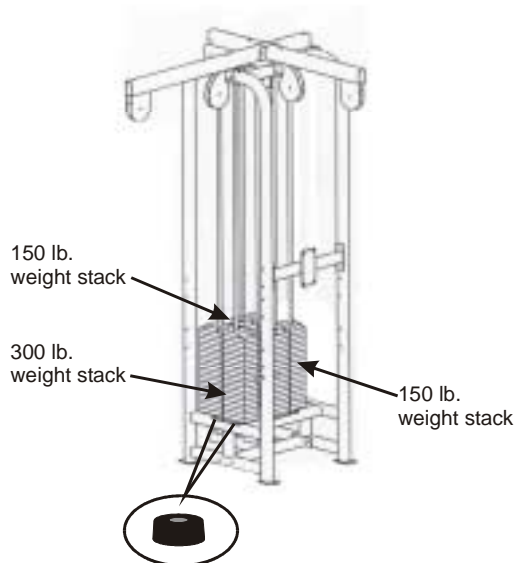
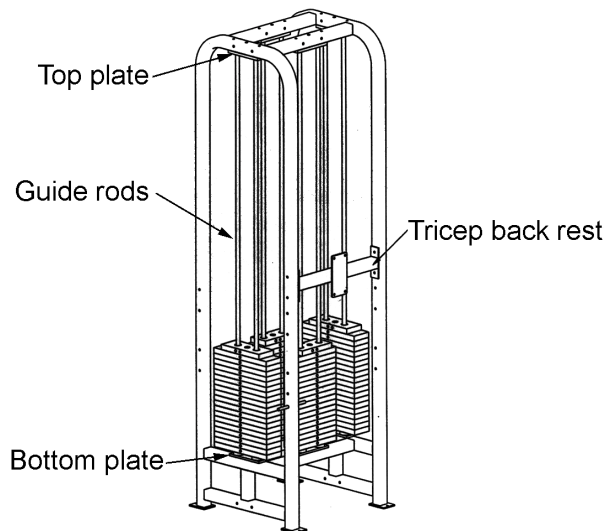

Figure 8. Mount rubber bumpers and the weight stacks.
Figure 9. Remove the tricep back rest, the top plate and the guide rods.
- Use a 9/16" socket and combination wrench and remove the tricep back rest bolts (see Figure 9).
- Use a 9/16" socket and combination wrench and unbolt the top plate and remove the guide rods (see Figure 9).
- Prepare the weight stack.** Slide the guide rods (2) through the weight stacks (1) as shown below. Place rubber bumpers (3) on the bottoms of each guide rod. Make sure the pull pin (4) is in the bottom weight plate.
- Set the weight stacks onto the machine.** Using a piano dolly, lift the weight stacks over the bottom plate and set the stacks onto the rubber bumpers with the plate numbers facing outward. The 300 lb weight stacks need to be facing the "sides" of the cells (where the benches will be attached- number 8 in Figure 9). The 190 lb weight stacks will need to be facing the "outsides" and "insides" of the cells (where the tricep pulleys and crossover pulleys will be attached- number 9 in Figure 8). Make sure the pull pins are facing outward.